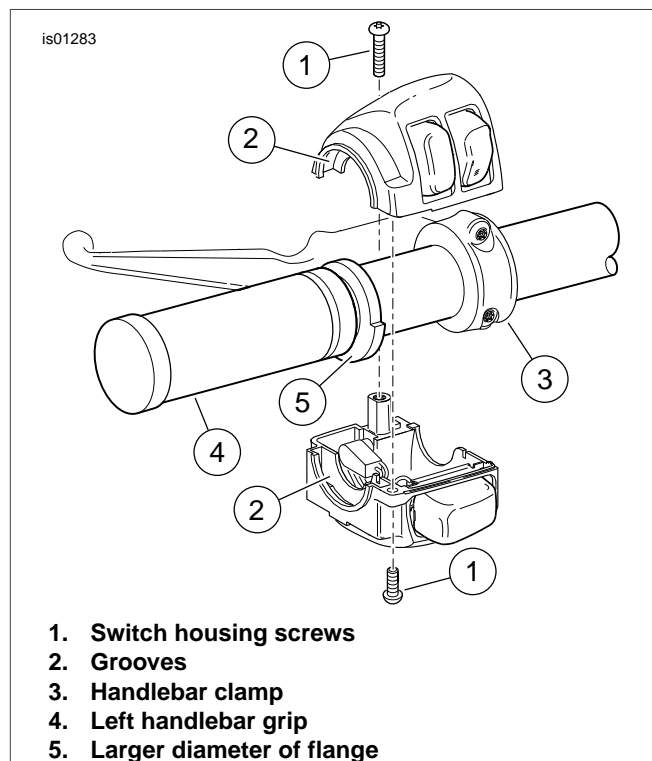

Figure 1. Left Handlebar Switch Housing
1. See Figure 1. Using a T27 TORX® drive head, remove the two screws with flat washers securing the handlebar clamp (3) to the clutch lever bracket. Remove the clamp, and position the clutch hand lever assembly away from the handlebar.
2. Using a T25 TORX drive head, loosen but do not remove the upper and lower switch housing screws (1).